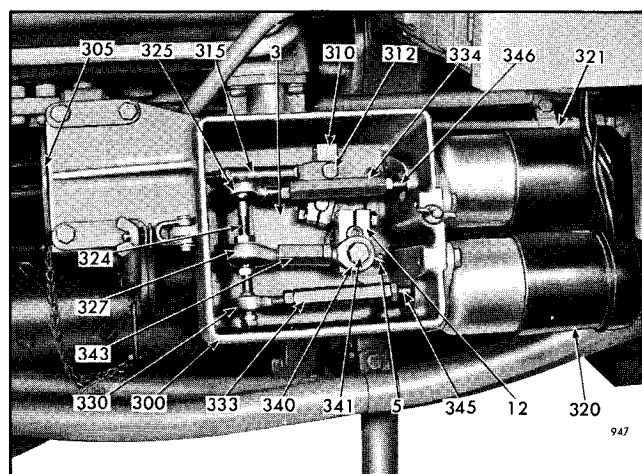

Fig. 8 - Throttle Control Linkage Arrangement
On the former throttle control linkage arrangement shown in Fig. 8, place the shut-down control rod end (315) on shut-down control lever (310) and secure in place with bolt.
5. Move the injector racks to FULL FUEL position by energizing the throttle control operating solenoids (320) and (321), then tighten the shut-down control lever clamping bolt.
- a. Note engine idle speed -- if the idle speed is above 750 r.p.m., turn solenoid plungers (345) and (346) into rod end bearings (325) and (330) on the current throttle control linkage shown in Fig. 6. On the former throttle control linkage shown in Fig. 8, lengthen turnbuckle (343). If idle speed is below 750 r.p.m., re-adjust as outlined in "Adjust Idle Speed."
6. Place controller in No. 2 position and adjust engine speed, if necessary, by moving the operating beam (324) upward to increase the speed or downward to decrease the speed on the current throttle control linkage shown in Fig. 6, or moving rod end bearing (327) along the operating beam (324) on the former throttle control linkage shown in Fig. 8, by loosening one and tightening the other operating beam adjusting nut until a speed of 1185 ± 5 r.p.m. is obtained.